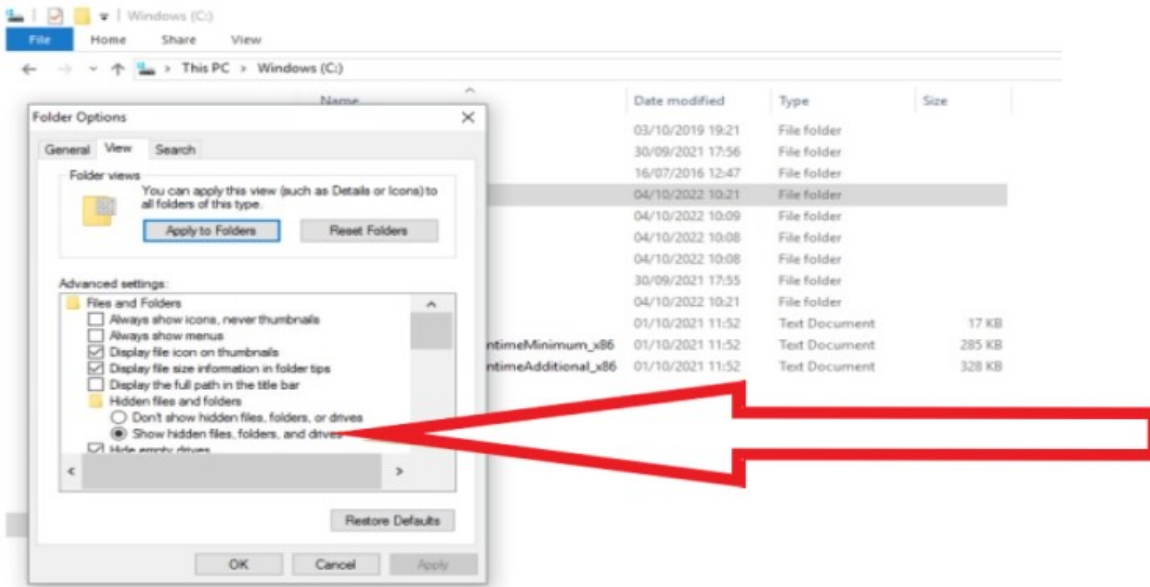

Figure 9
If this location is not visible it may be hidden, please see further information shown in Figure 9
9) Referring to Figure 9 - Access the program data for ODIS-your Windows (C:)drive